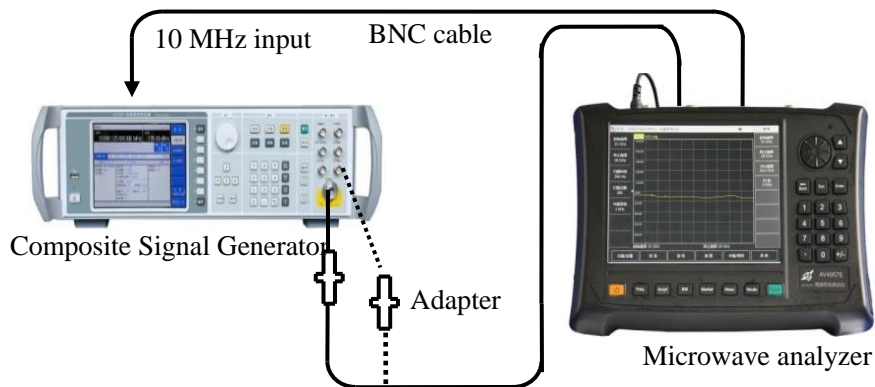

Fig.5-33 Frequency Span Test Block Diagram
Test block diagram is shown in Figure 5-33:
- 1) Connect the test equipment as shown in dotted line in Figure 5-33. The 4957D/E/F microwave analyzer provides the reference frequency for the composite signal generator 1464B/C. The low-frequency output port of the composite signal generator is connected to the RF input port of the microwave analyzer as shown in dotted line in Figure 5-33);
- 4) Connect the RF output of the composite signal generator to the RF input of the microwave analyzer with adapters and cables by following the solid lines of Figure 5-33. Set the output frequency of the signal generator to the highest frequency of the corresponding spectrum analyzer model, the modulation function to off, and the output power to -10 dBm.